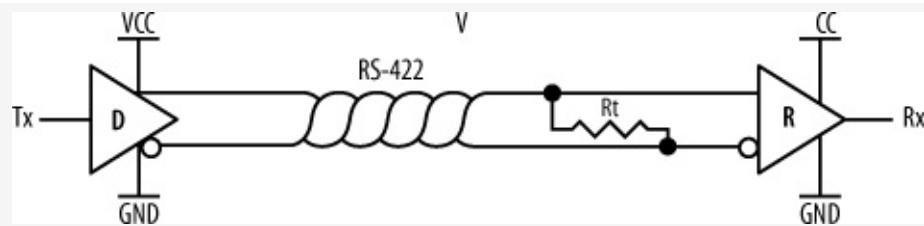

Figure 9-9. RS-422
Figure 9-9 shows a basic RS-422 link, where a driver (D) of one embedded system is connected to a receiver (R) of another embedded system via a twisted pair. The resistor, R_t , at receiving end of the twisted pair is a *termination resistor*. It acts to remove signal reflections that may occur during transmission over long distances, and it is required. R_t is nominally 100-120 Ω .